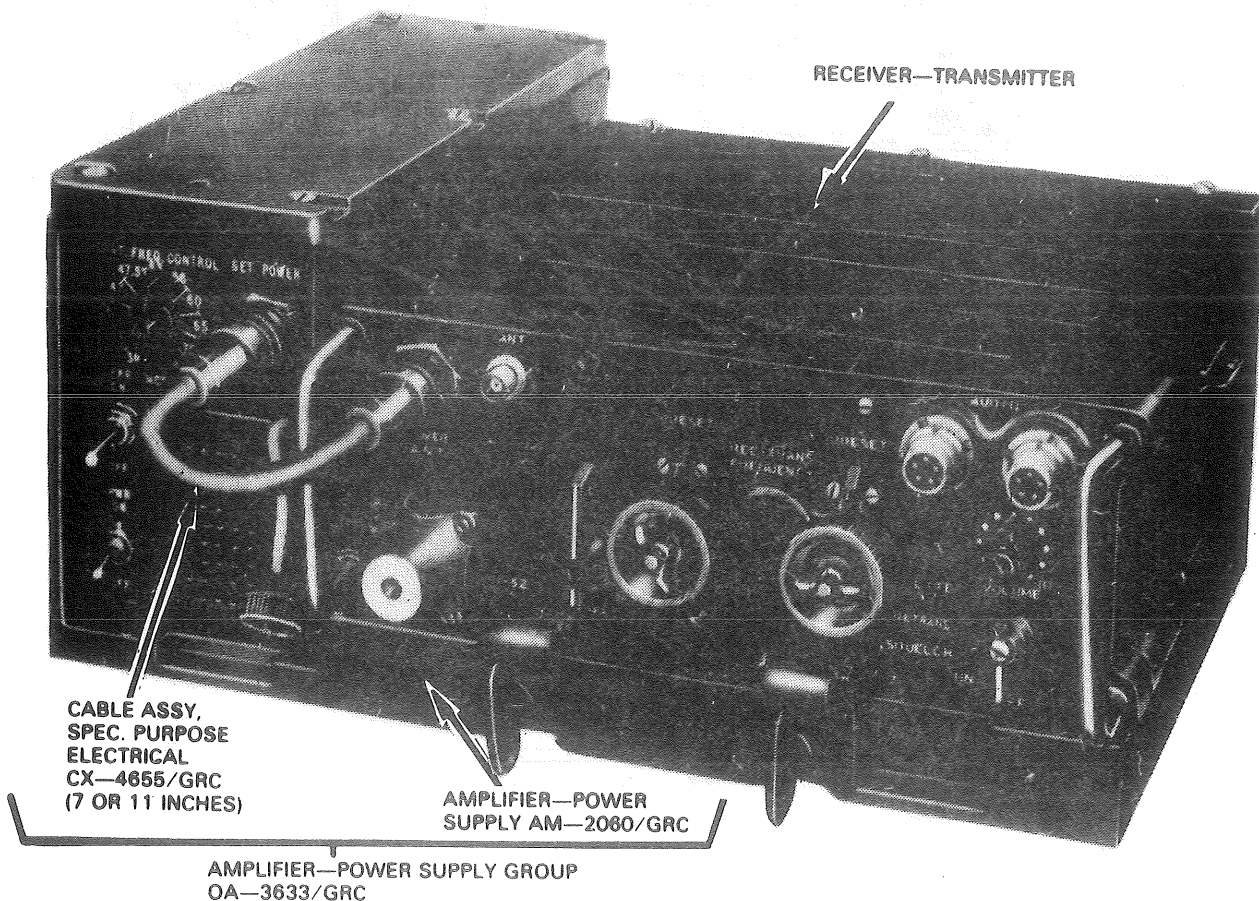

Figure 4. Amplifier-Power Supply OA-3633/GRC or OA-3633A/GRC with receiver-transmitter installed.
- 2. Insert receiver-transmitter into amplifier-power supply. (Refer to fig 4, and TM 11-5820-498-12, para 2-5e.)
- e. Connect Cable Assembly, Special Purpose, Electrical CX-4655/GRC between amplifier-power supply SET POWER connector and receiver-transmitter POWER connector as shown in figure 4.